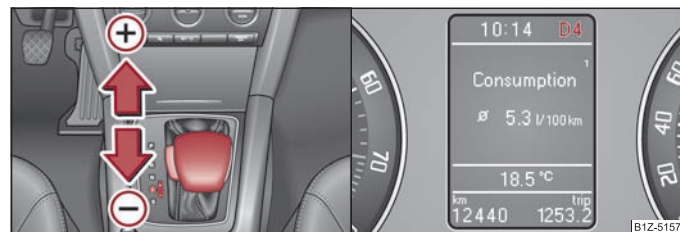

Fig. 120 Selector lever: manual shifting/information display: Manual shifting of gears
The selector lever position you have engaged is indicated in the information display of the instrument cluster together with the engaged gear ⇒ fig. 120 - right.
- One-touch forward of the selector lever (in the Tiptronic position) ⇒ page 117, fig. 120 (+).